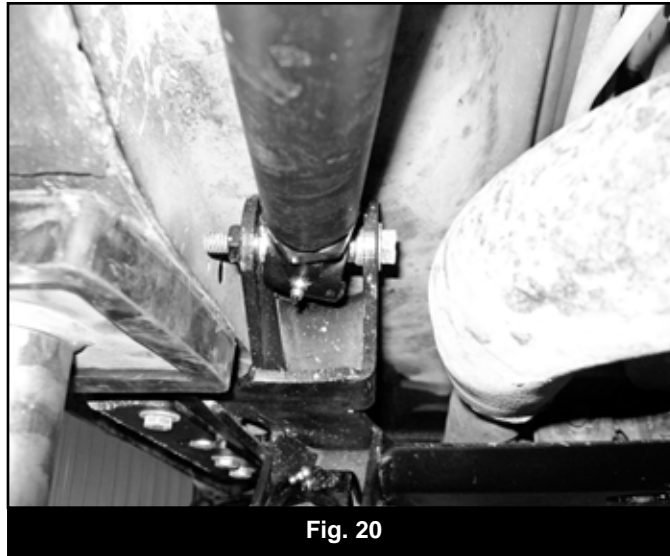

Fig. 20
55. Install the new upper control arms into the new upper control arm pockets in the crossmember (Fig 20). Fasten the arms with 7/16" x 3-1/2" bolts and 7/16" SAE washers into the welded nut on the crossmember. Use Loctite® on the bolt threads.